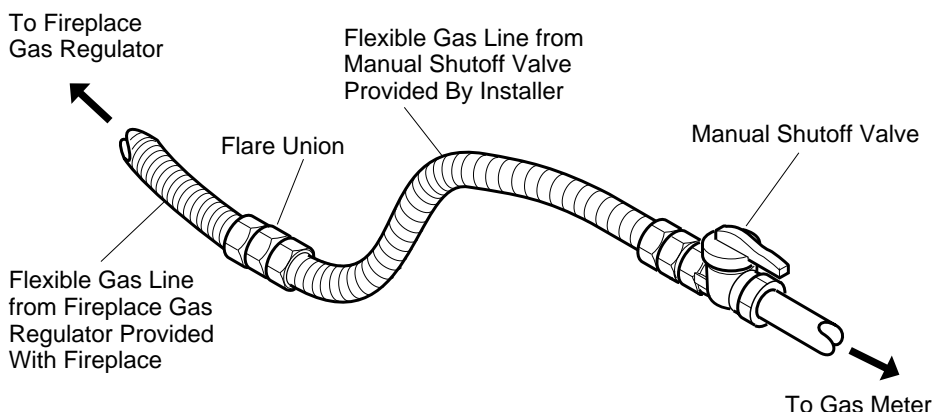

Figure 19 - Attaching Flexible Gas Lines Together
NOTICE: Most building codes do not permit concealed gas connections. A flexible gas line is provided to allow accessibility from the fireplace (see Figure 19). The flexible gas supply line connection to the manual shutoff valve should be accessible.
4. Attach a 45° flare union gas connector to flexible gas line from gas supply (see Figure 19). Connect flare union to flexible gas line attached to gas regulator of fireplace (see Figure 19).